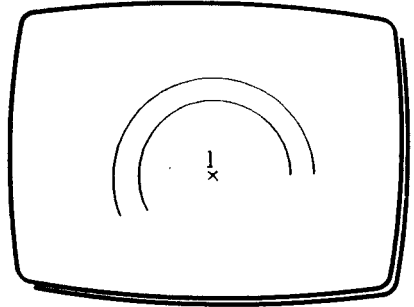

Fig 5
- 8 Press and release T to draw the second arc as in Fig 5.